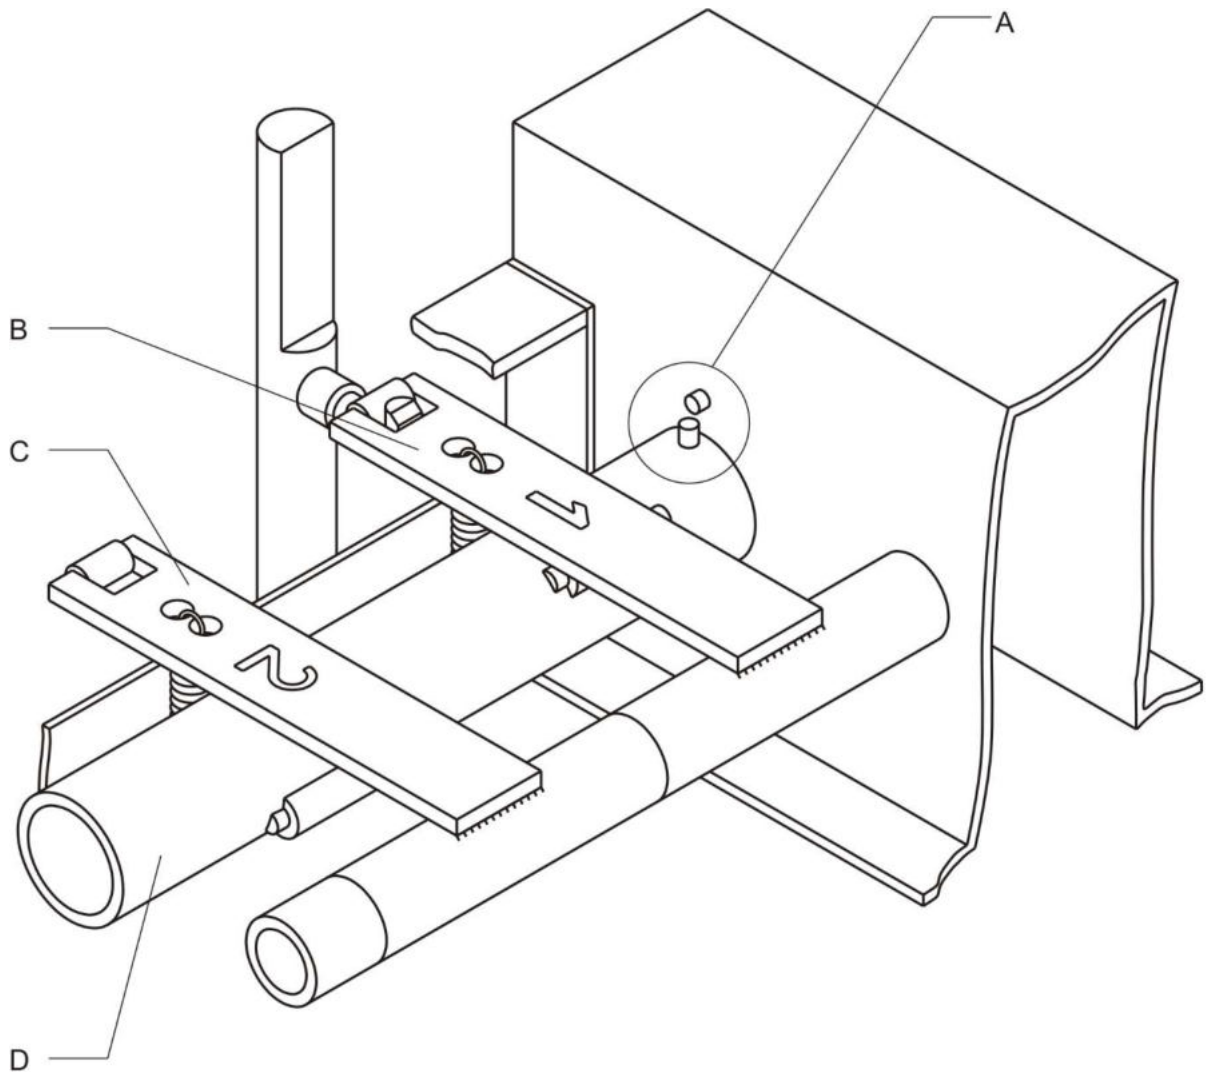

Fig. 7
11. Turn the steering cylinder by hand until the marks on steering cylinder and gear box are aligned (Fig. 7 A + D).